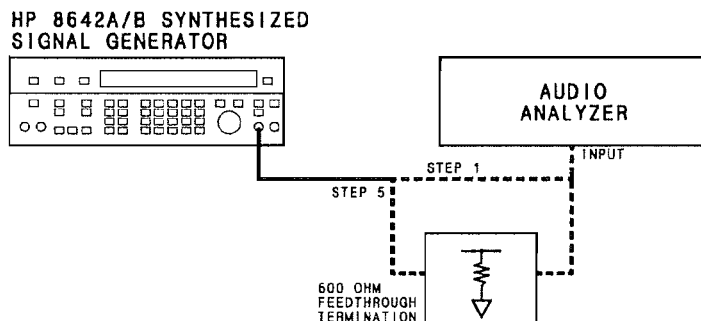

Figure 4-7. Internal Modulation Oscillator Test Setup
1. Connect the instruments as shown in Figure 4-7. Preset the HP 8642 and audio analyzer. Set the audio analyzer filters off.